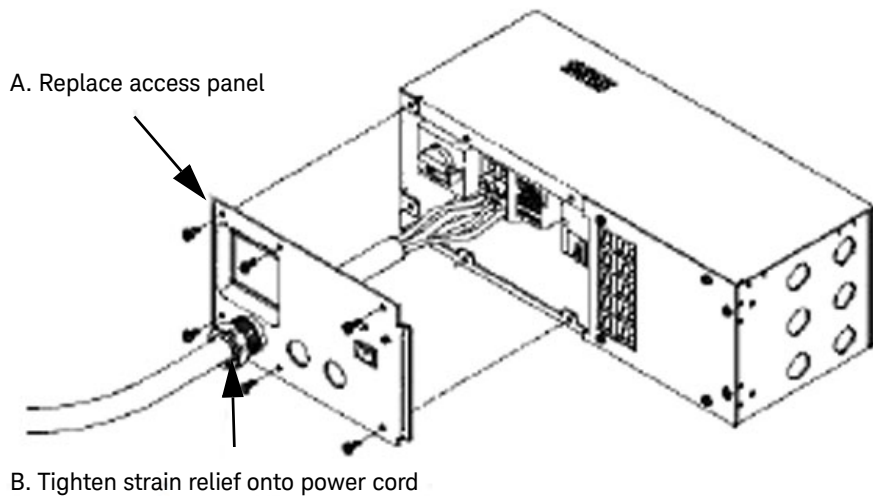

Figure 2-6 E1135C PDU power cord installation
- On the E1135C PDU is a 25.4mm (1 in) hole to install a cable clamp and a power cord. Use a power cord with a locking plug (one that cannot be easily pulled from its outlet) or hard-wire the system to the AC power. You are required to provide both cable and strain relief (see Figure 2-6).